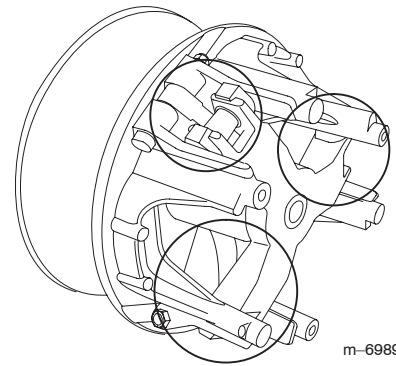

Figure 57
- 5. Lubricate the moving parts in the areas circled in Figure 57 using Toro Dry Lubricant Spray, available through your Authorized Toro Dealer or Distributor.